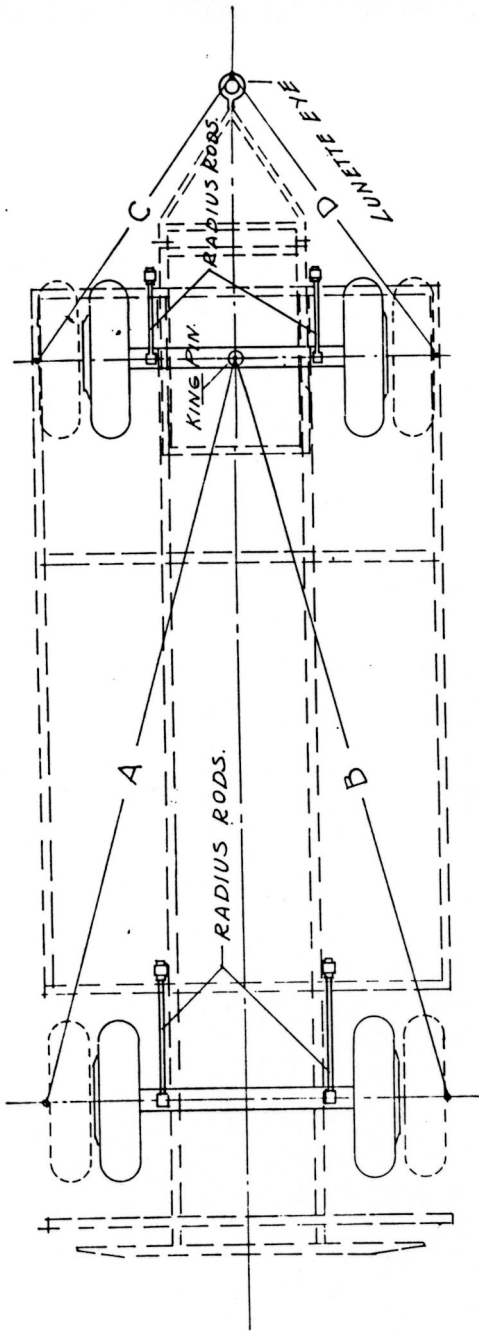

Fig. 2. Axle alignment diagram
(4) *Axles.* Check the axles for correct alignment. (See Fig. 2.)
### 11 Axle Alignment and Disassembly (Figs. 2 and 3)